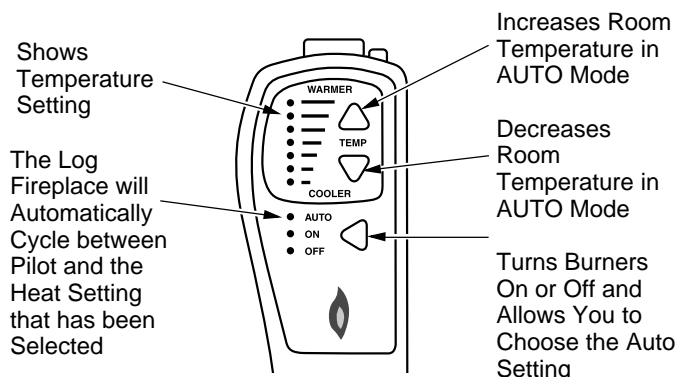

Figure 53 - Thermostat Hand-Held Remote Control Unit Selections (GHRCTA Only)
- 2b. Press the AUTO/ON/OFF button on the hand-held remote control (see Figure 53). The lights to the left of the button will show AUTO, ON, or OFF.